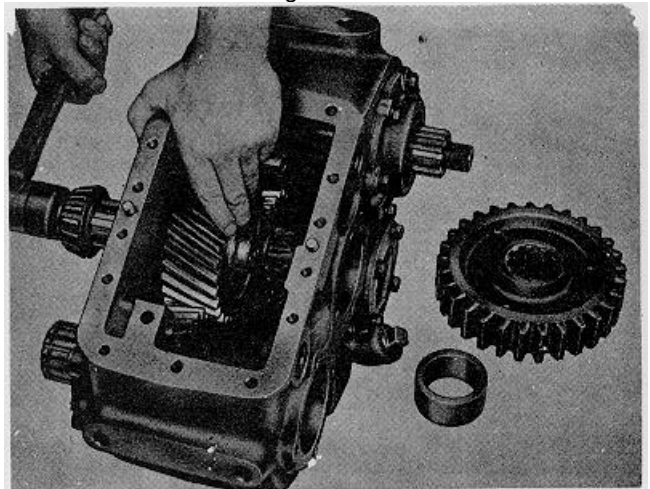

Fig. 33
19. Hold Hi gear in position inside case and tap idler shaft through it with soft hammer. The short hub side of gear goes to the outside, rear (Fig. 33).